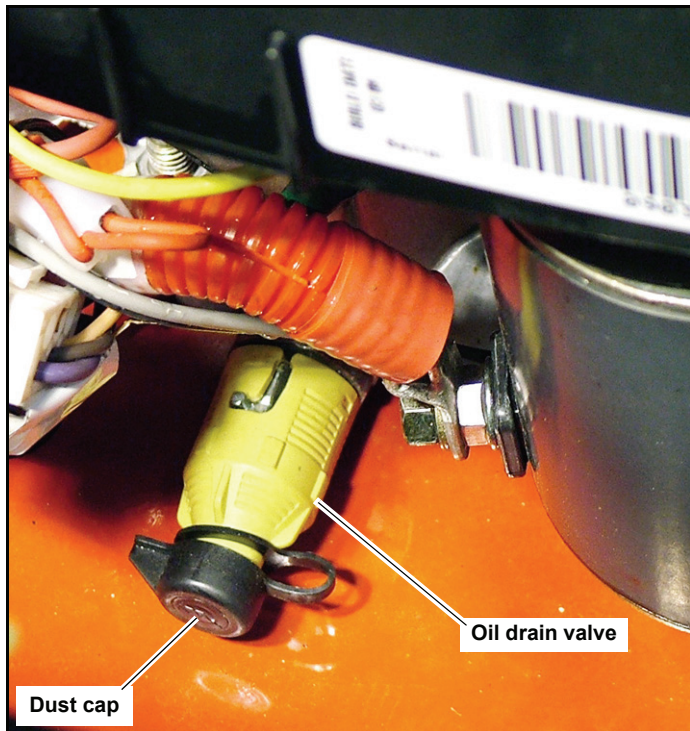

Fig. 4-2
1. Locate the oil drain valve on the lower left side of the engine. Fig. 4-2
2. Remove the dust cap. Fig. 4-2